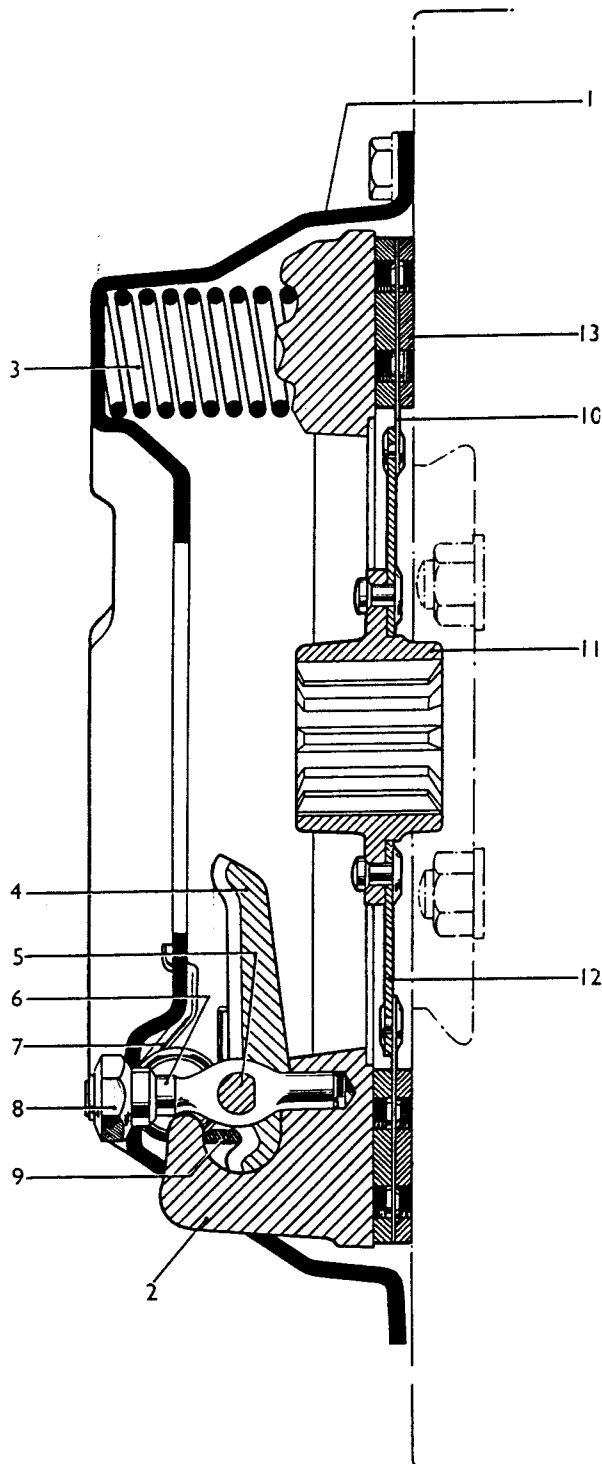

FIG 1
(FIG. 1.)
Components are illustrated in Fig. 1 which gives a section of the unit.
NOTE : The adjusting nuts (8, Fig. 1) are correctly set and locked when the unit is assembled and should not be altered unless the clutch has been dismantled. Interference with this adjustment will put the pressure plate out of position and cause clutch judder and promote failure of the clutch release bearing.
Remove each release lever (4) by holding lever and eye-bolt (6) so that the inner end of the lever and the threaded end of the eyebolt are as near together as possible, keeping the eyebolt pin (5, Fig. 1.)
(FIGS. 1 & 5)